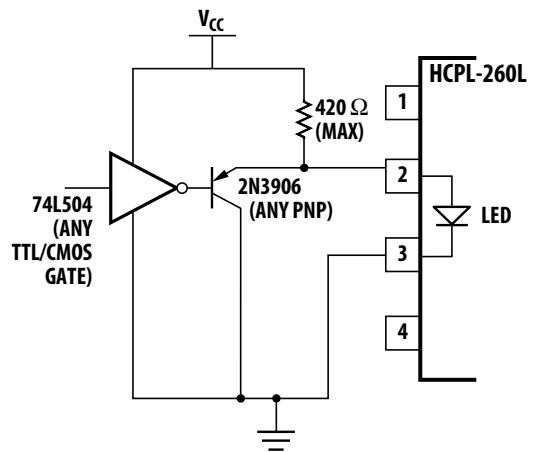

Figure 15. TTL interface circuit
1. Use of drive circuits where current is shunted from the LED in the LED “off” state (as shown in Figures 15 and 16). This is beneficial for good CMR_H .
Figure 15 shows a circuit which can be used with any totem-pole-output TTL/LSTTL/HCMOS logic gate. The buffer PNP transistor allows the circuit to be used with logic devices which have low current-sinking capability. It also helps maintain the driving-gate power-supply current at a constant level to minimize ground shifting for other devices connected to the input-supply ground.